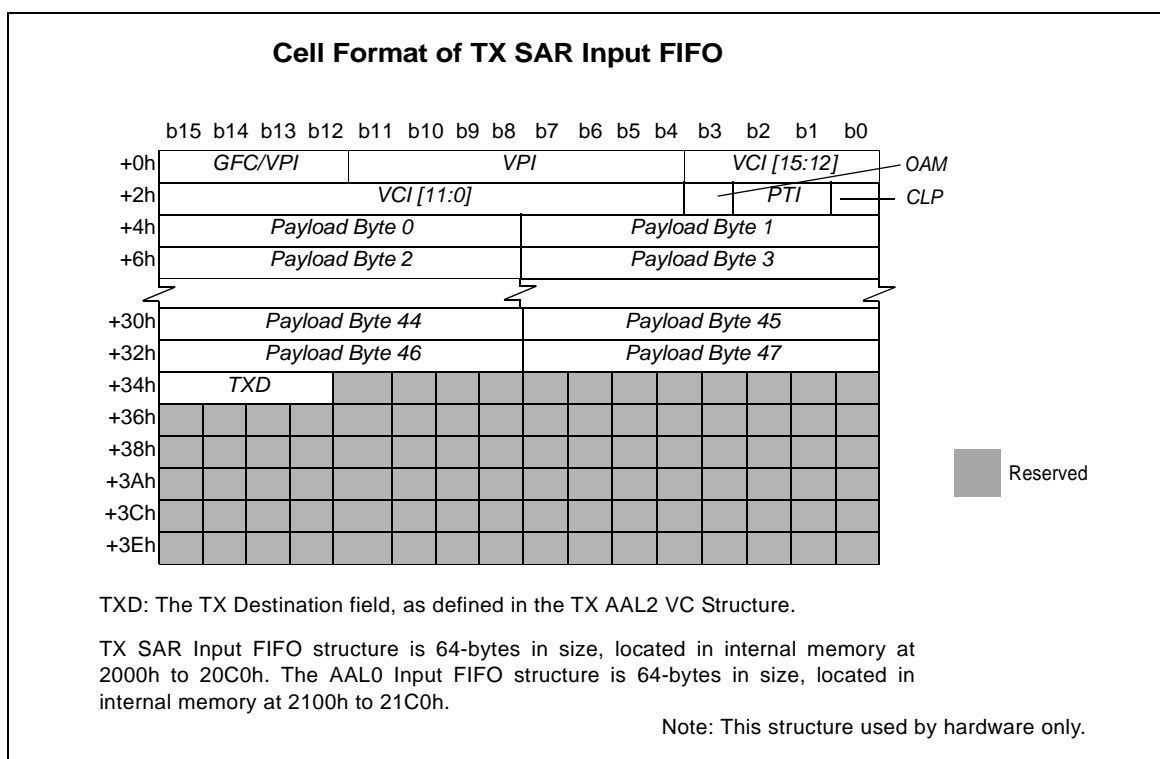

Figure 21 - TX Cell Format
- Upon a VC Send Event, the TX SAR writes a complete ATM cell (see Figure 21 on page 43) to the TX SAR Input FIFO (4 cell depth).